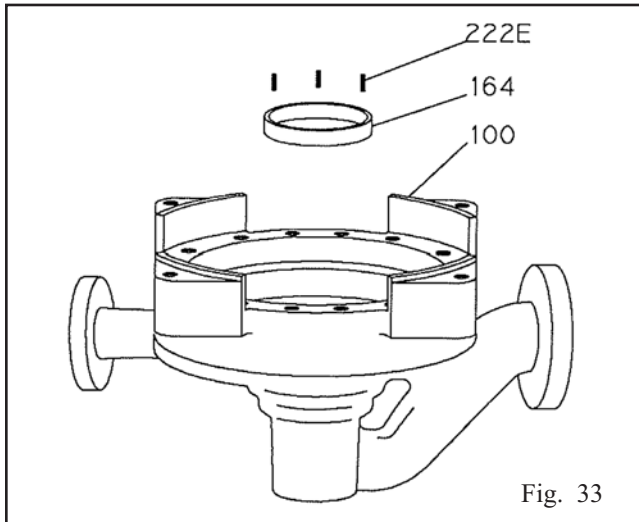

Fig. 33
- Chill new casing wear ring (164) using dry ice or other suitable chilling substance, and install ring into fit of casing (100). Be prepared to tap the ring in place with a hard wood block or soft faced hammer (Fig. 33).